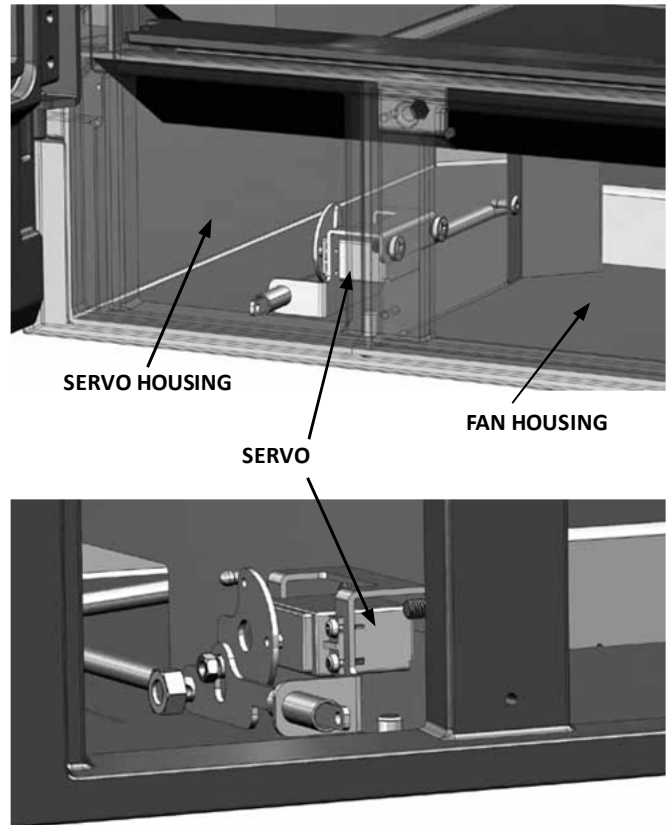

FIG. 3-4
3. Once the fan support tray has been removed, you can access the servo housing (Fig. 3-4).